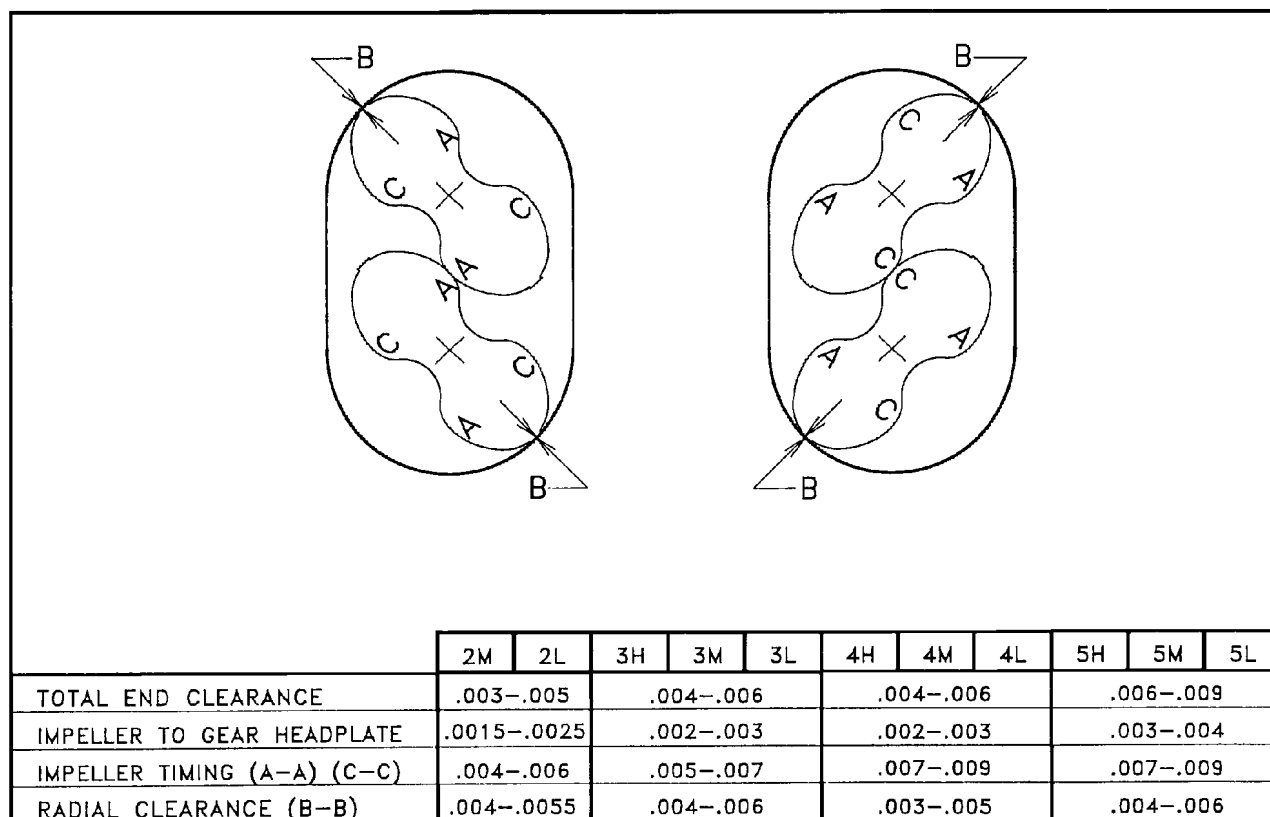

FIGURE 21
If total clearance is not within the limits specified in FIGURE 21, page 18, it may be necessary to shim the case to obtain the proper total end clearance. The shim should be placed between the drive headplate and impeller case.
11. Push the impellers against the gear headplate and recheck the total end clearance between the drive headplate and the impellers (see FIGURE 21).
- A. If total end clearance is insufficient, loosen impeller case to headplate bolts on either headplate, and move the headplate away from the case far enough to insert a paper shim in the amount equal to the insufficient clearance. Retighten case bolts and again check the total end clearance. Refer to FIGURE 21 for correct clearance.
12. Impeller tip to case clearance should be checked at this time by inserting the correct thickness feeler gauge between the tip and the case and rotating the impeller (see FIGURE 21, page 18). Repeat the procedure on both impellers.
- F. Place impellers in the position shown in FIGURE 21, page 18. Check to be sure impellers are in correct position as previously match marked.
- H. Refer to diagram in FIGURE 21, page 18. Use feeler gauges to check clearances between impeller lobes at positions A–A and C–C. Add the clearances, and divide the total clearance evenly between A–A and C–C.
- D. To set the fixed end, insert the feeler gauge in the amount specified in FIGURE 21, page 18, between the headplate and the impeller at the gear end.